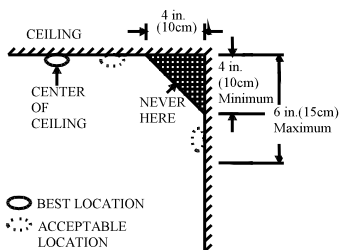
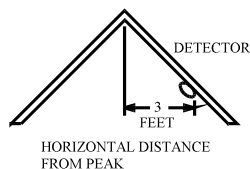

Figure 3: Recommendations for best and acceptable installation locations for installing smoke / heat detectors.
Figure 4: Recommended installation location for smoke / heat detectors in rooms with sloped ceilings or gables (slope >20 degrees).
- Install smoke / heat detectors as close as possible to the centre of the ceiling. If it is not practical, install the detector no closer than 30cm to walls or corners (*see Figure 3*).
- If installing on the ceiling is not possible and state and local authorities allow the installation of the detectors on walls, assemble them on walls at a distance of 30cm – 50cm from the ceiling (*see Figure 3*).
- If your home has sloped ceilings or gables, try to install the detectors 90cm from the highest point of the ceiling, measuring horizontally (*see Figure 4*).
- In areas with still air, such as under pointed roofs or in corners between walls and ceiling. Still air can prevent smoke from reaching the detector (see Figure 3 and Figure 4 for recommended installation locations).